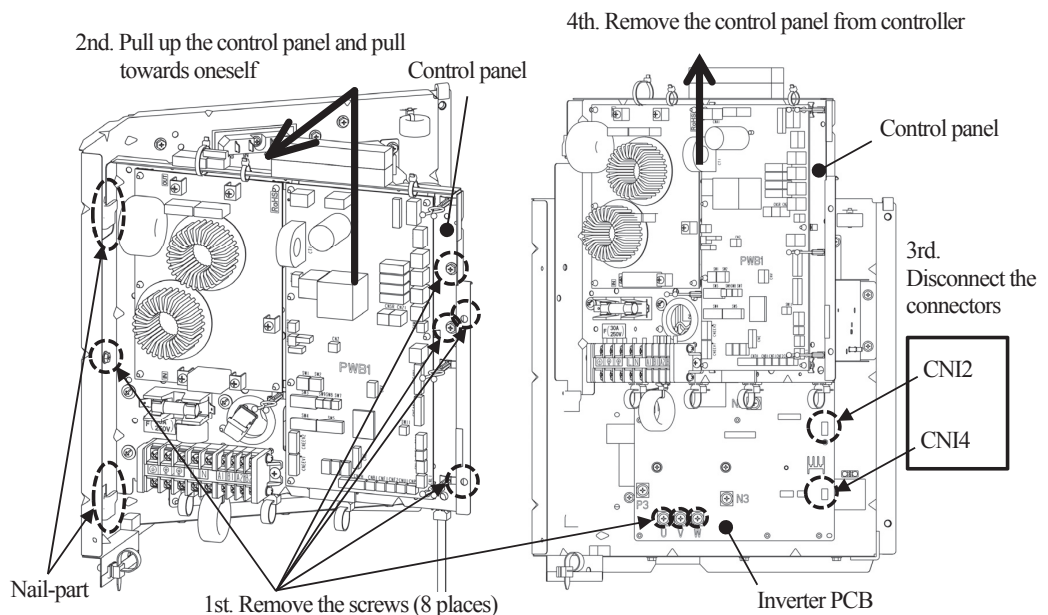

Fig.4 Removing procedure of control panel
- 1.8 Remove the screws (8 places) as shown in Fig.4, and remove the control panel from nail-part in left-side with pulling up. Next, disconnect CNI2 and CNI4, and remove the control panel from controller.
- 3.6 Tighten the screws (8 places) as shown in Fig.4 as before.